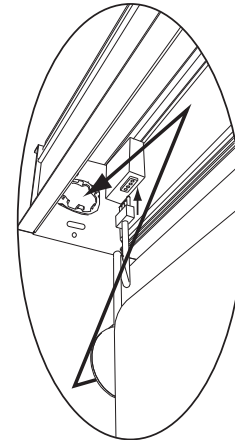

Figure 3
- ① Compress and insert spring loaded pin end into its bracket.
- ② Insert operator end into bracket (see Fig. 3).
- ③ Plug shade into junction box.